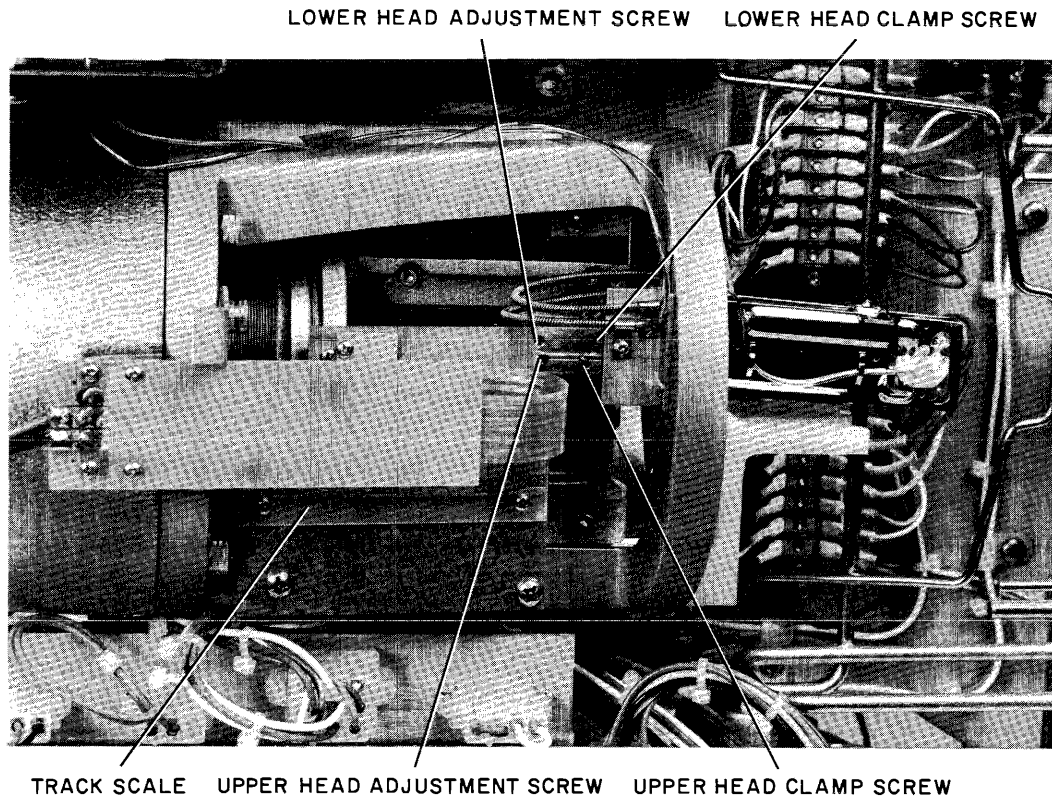

Figure 5-11 Read/Write Head Adjustments
8. Remove the two head clamp screws (Figure 5-11) and, with the carriage retracted to unload the heads, carefully remove the upper head.
3. Replace the two head clamp screws (Figure 5-11).
7. If the correct waveform occurs and the track scale indicates less than 105, loosen the appropriate head clamp screw (Figure 5-11) and push the head in toward the positioner until the track scale indication is slightly greater than 105.